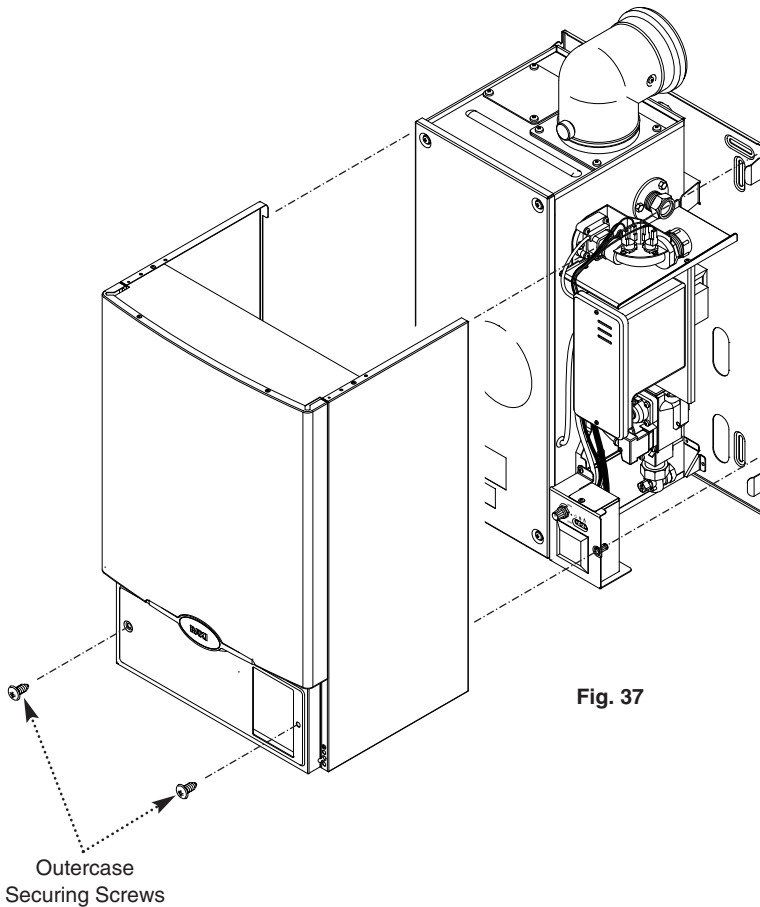

Fig. 37
1. Position the outercase over the boiler engaging the lugs in the side flanges over the hooks on the wall plate (Fig. 37).
2. Using the two screws supplied in the kit, secure the outercase to the combustion box (Fig. 37).